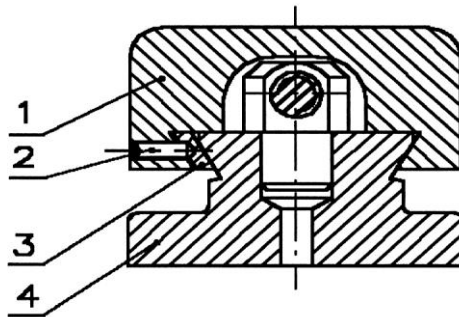

Fig. 3.
Supports for rotary vice type 6583; fig.3, table III are made of high-quality cast-iron moulds. The dowel is made of steel, quenched and ground. The vice have rigid structure.
4. The principle of play elimination in vices 6910 (fig.3)